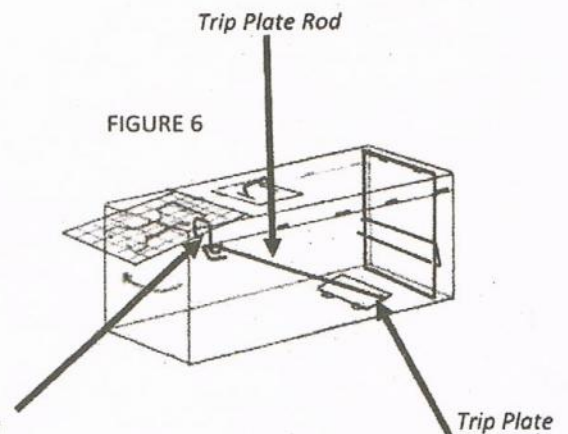

FIGURE 6
**Note – the curled end of the Trip Plate Rod (if not already inserted) is inserted from underneath the Trip Plate in an upward direction, through the hole in the Trip Plate and twisted clockwise until the curled end of the Trip Plate Rod is facing downward. If the curled end of the Trip Plate Rod is NOT facing downward the Trip Plate Rod may fall through the hole and the trap will not be set correctly. Connect the U shaped top of the Trip Plate Rod to the J-Hook mechanism located above the trap door. (Figure 6).*